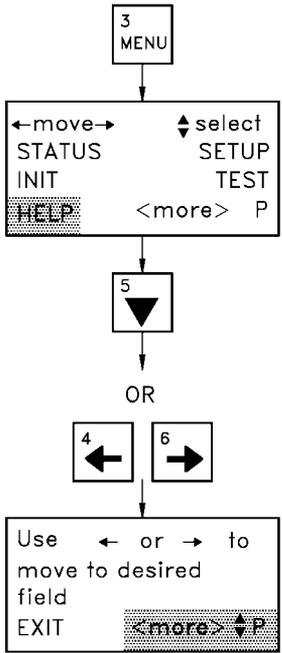

Figure 2-8 Accessing Help Displays.
2.5.1 Accessing the Help Displays. The help displays are accessed from the *MENU* display or by pressing the *Left-* and *Right-arrow* keys at the same time to display help, as shown in Figure 2-8. To exit the help displays, move cursor to *EXIT* and activate.